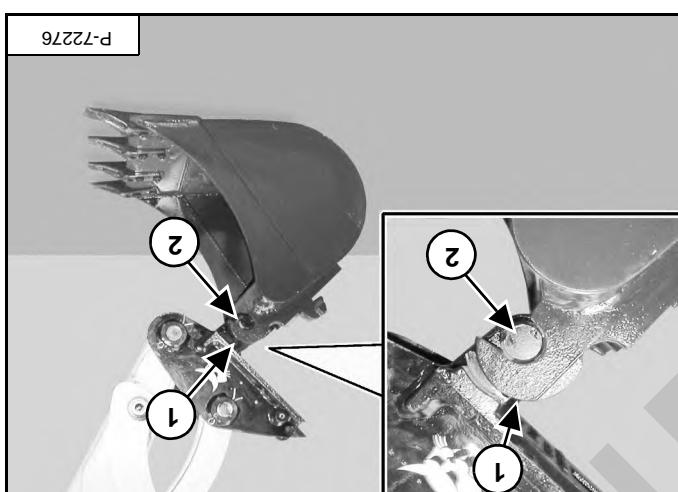

Figure 101
Raise the boom and extend the arm until the hooks of the attachment (item 1) engage the pins (item 2) [Figure 101] of the quick coupler.